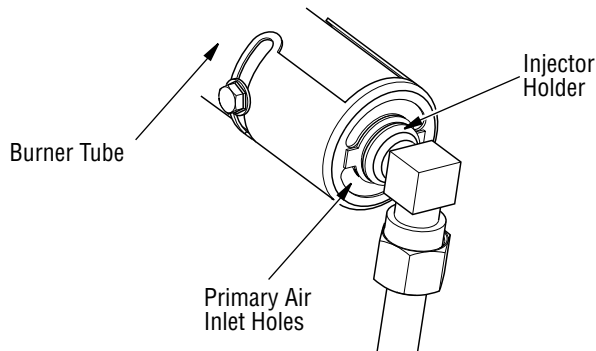

Figure 31 - Injector Holder On Outlet Burner Tube
2. Inspect burner, pilot and primary air inlet holes on injector holder for dust and dirt (see **Figure 31, Page 18**).